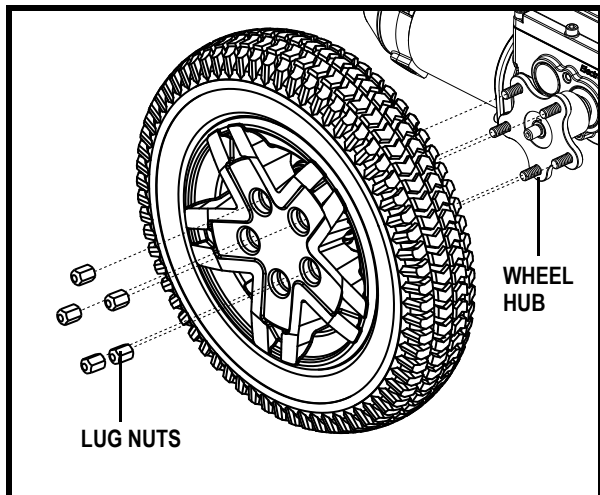

Figure 24. Q6 Edge Drive Wheel
4. Remove the (5) lug nuts from the wheel hub. See figure 24.